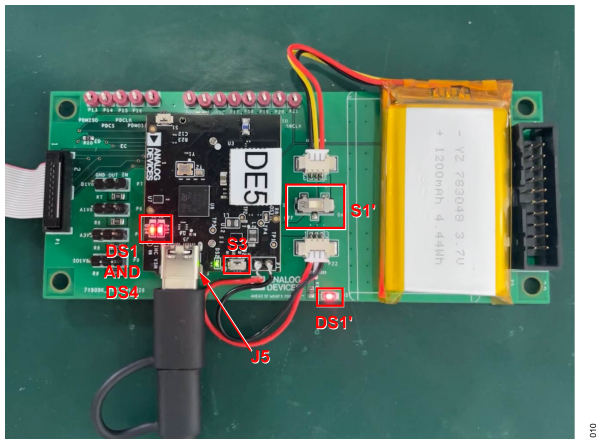

Figure 10. Cable Connection
Connect the USB to the Type-C cable from the PC to **J5** on the **EVAL-VSMUCZ** to power on the EVAL-ADPD7000Z automatically. The two indicator lights on the EVAL-VSMUCZ (**DS1** and **DS4**) turn on. If the **S1'** switch in **Figure 10** is set to on, the battery is charged by the PC. **Figure 10** shows the cable connection.
1. On the EVAL-VSMUCZ, set the **S1'** switch to **On**. The stand-alone **DS1'** indicator light emitting diode (LED) in **Figure 10** turns on.